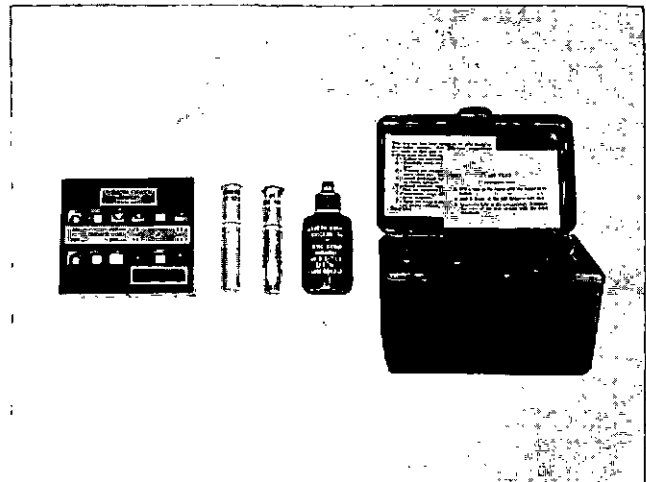

Fig. 5-16, N11946. ST-993 Coolant Test Kit
When using plain water in a cooling system with a corrosion resistor (with chromate-type element) or when treating with chromate compounds, the concentration of effective inhibitor dissolved in coolant can be measured by the color comparison method. Cummins Coolant Checking Kit ST-993 is available from Cummins Distributors for this check. Fig. 5-16.
1. Separate tubes marked "pH" are furnished in the ST-993 Test Kit, Fig. 5-16.